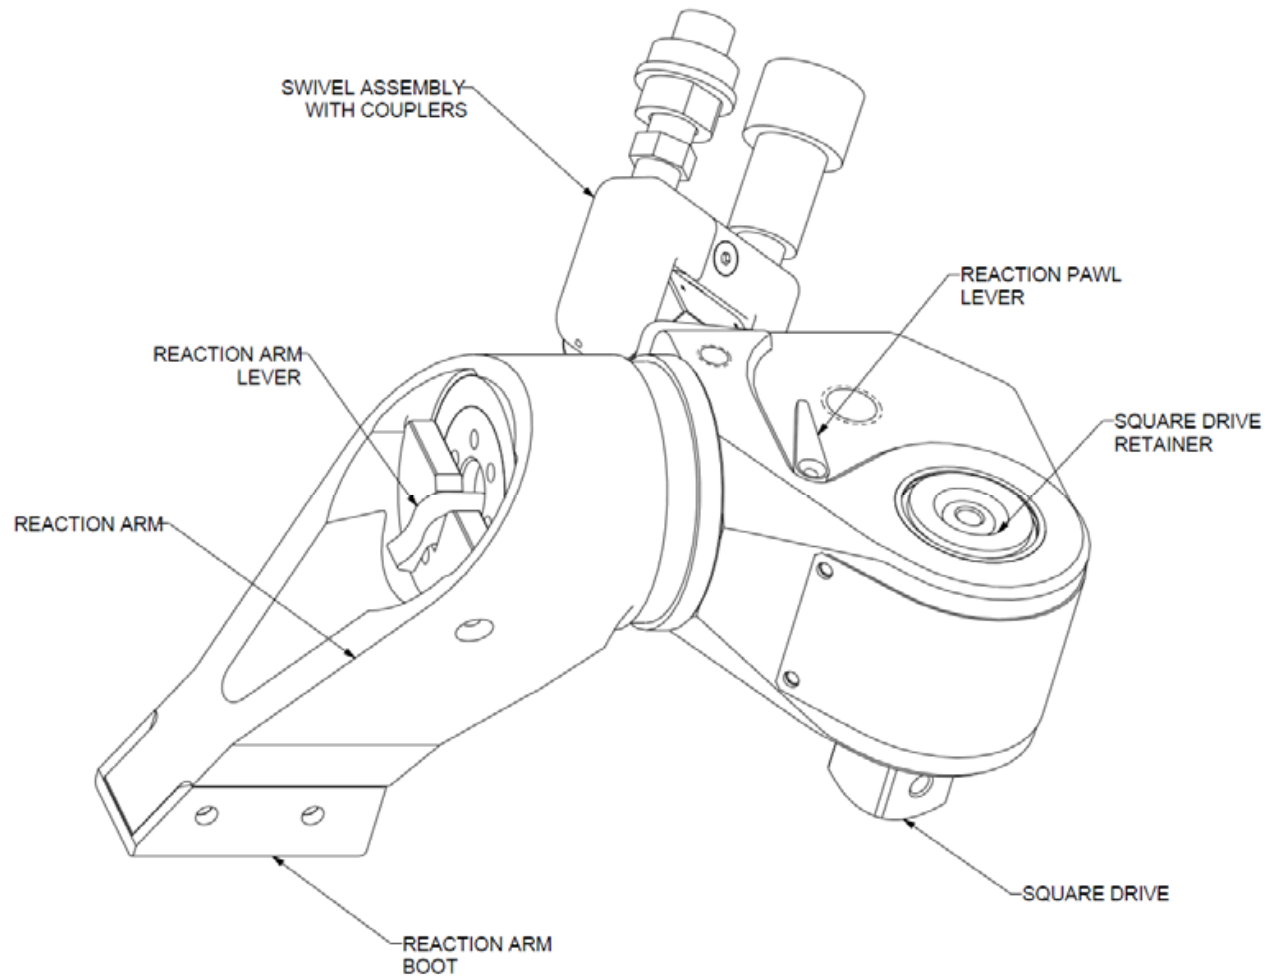

Figure 12 Major Tool Components
4. Place the reaction arm boot (Figure 12) against a strong stationary object (i.e.) an adjacent nut, flange or equipment housing.